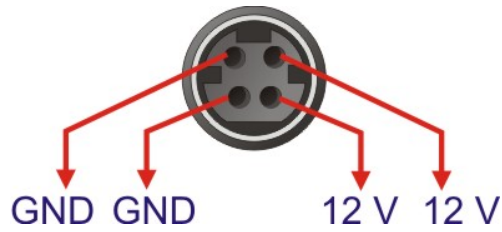

Figure 3-27: 4-pin Power Mini-DIN Connection
- CN Pinouts:** See **Figure 3-27**